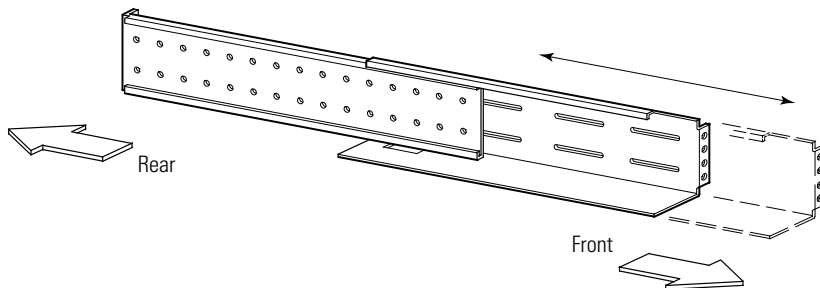
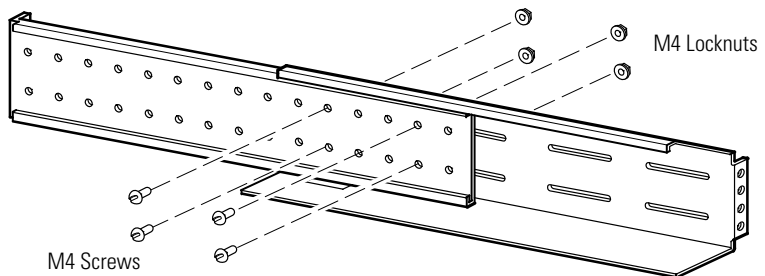

Figure 3. Adjusting the Rail Depth (Right Rail Assembly Shown)
Figure 5. Tightening the Rail Adjustment (Right Rail Assembly Shown)
2. If access to the sides of your rack is difficult, adjust the length of the rails (see Figure 3) and loosely install the fasteners (see Figure 5) before continuing to Step 3.
4. Adjust the rail size on the rail assembly for the depth of your rack (see Figure 3).
7. To tighten the rail adjustment, assemble four M4 machine screws and four M4 locknuts to the middle of the rail assembly. Tighten using a 7 mm (9/32") nut driver. See Figure 5.